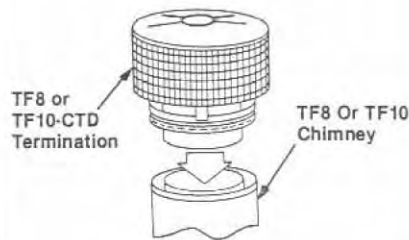

Figure 36
- 1) Hold CTD over top of last chimney section (Figure 36).